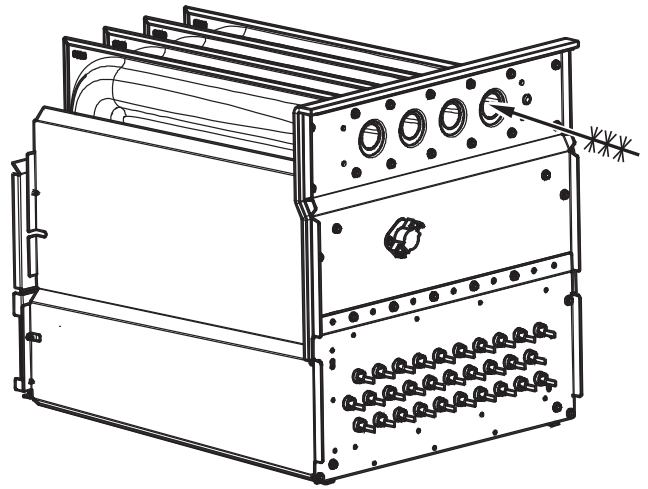

Fig. 67 - Cleaning Heat Exchanger Cell
7. Clean heat exchanger openings with a vacuum and a soft brush. See Fig. 67.